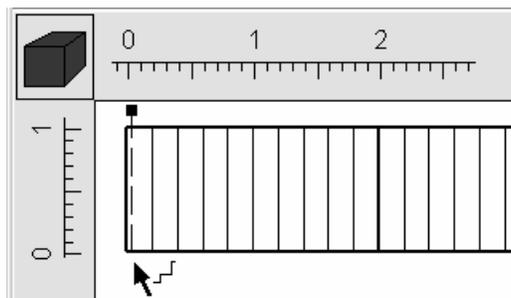

Figure 34. Drawing a line near the left side of the top view of the model.
10. The next step is to create the boundary condition on the left side of the model. Select **Object|Create Straight Line**. Click on the top view of the model and then click again to draw a line near the left end of the model (fig. 34). Double-click or push the Enter key on the keyboard to finish drawing the line.